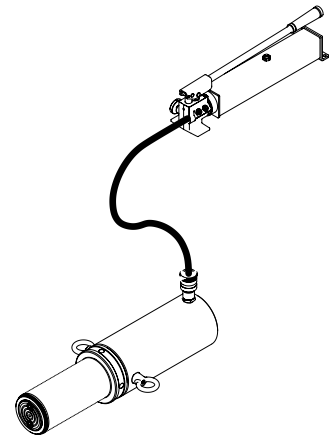

Figure 2 - Bleeding air from the system
1. Place pump at a higher elevation than the hose and cylinder as shown in figure 2.
| Erratic action | <ul style="list-style-type: none"> • Air in system or pump cavitation • External leakage in cylinder • Cylinder sticking or binding | <ul style="list-style-type: none"> • Vent the system (refer to figure 2) • Contact service center • Contact service center |
| Poor performance | <ul style="list-style-type: none"> • Oil level in pump is low • Air trapped in system | <ul style="list-style-type: none"> • Ensure proper oil level • Vent the system (refer to figure 2) |